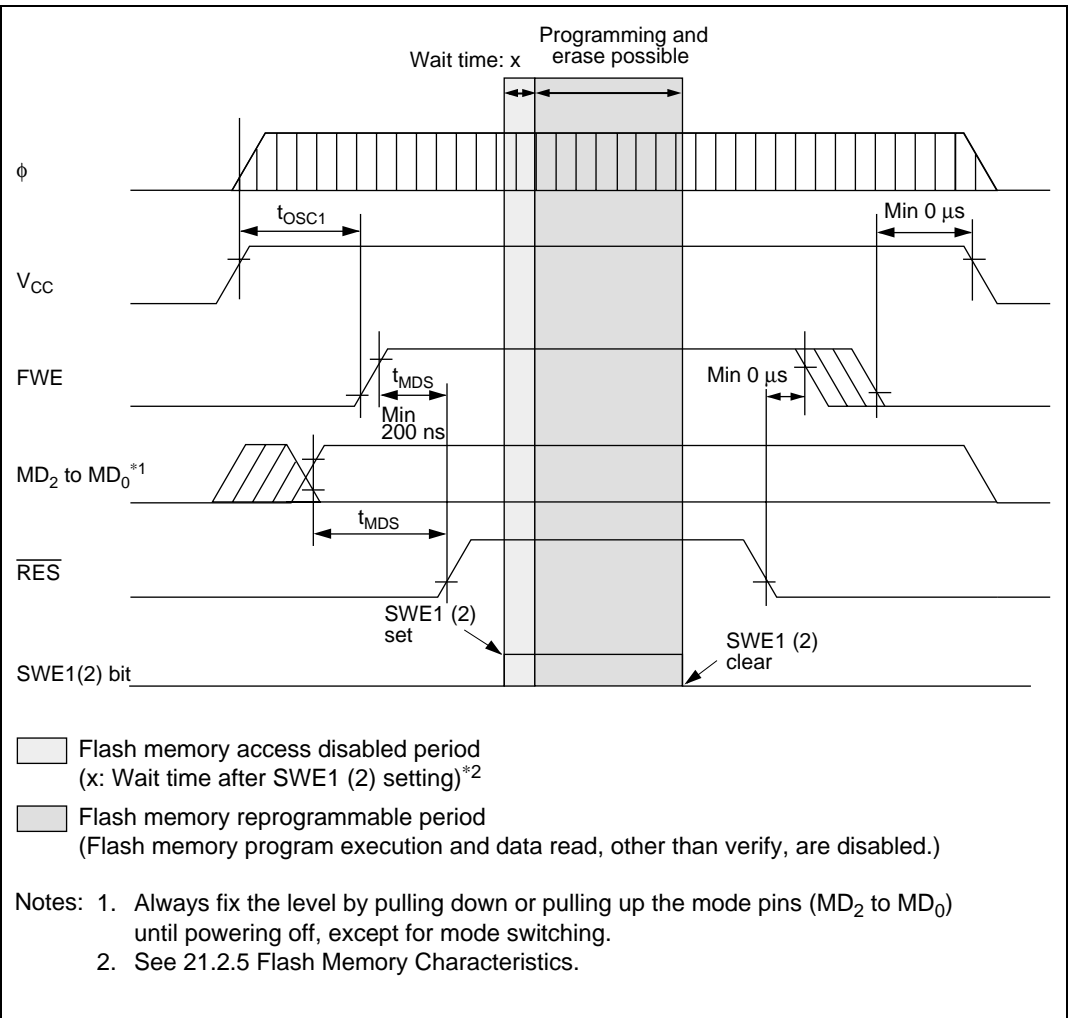

Figure 18.18 Powering On/Off Timing (Boot Mode)
2. Notes on powering on/powering off (See figures 18.18 to 18.20)
3. Notes on FWE pin High/Low switching (See figures 18.18 to 18.20)